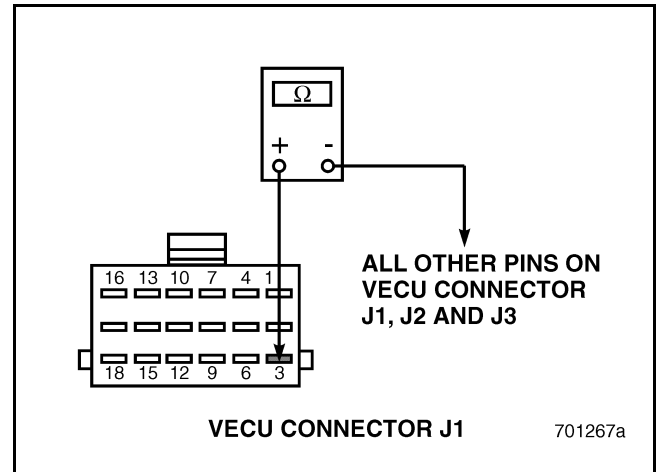

Figure 519
4. Check for continuity between VECU connector J1 pin 3 and all other pins on VECU connectors J1, J2 and J3 (see Figure 519).